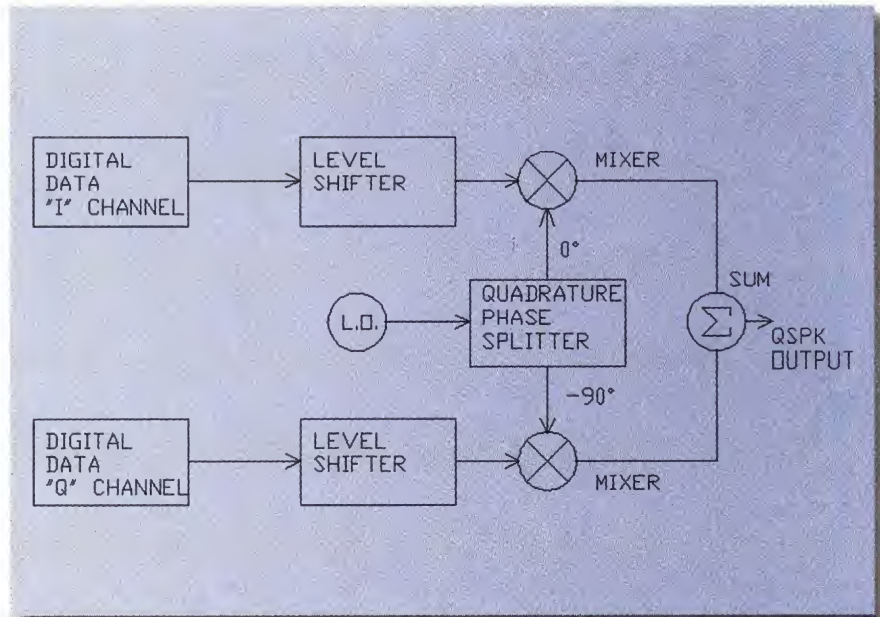

Figure 6.
Consider the quadrature phase shift keyed (QPSK) system shown in the block diagram of Figure 6. The QPSK output is the sum of dual binary phase shift keyed (BPSK) generators using quadrature local oscillator (LO) signals. LeCroy WaveStation LW420A can be used to replace any, or all, of the system blocks to provide signals with a full range of variability to simulate worst case changes in amplitude, phase, frequency, or signal-to-noise ratio.